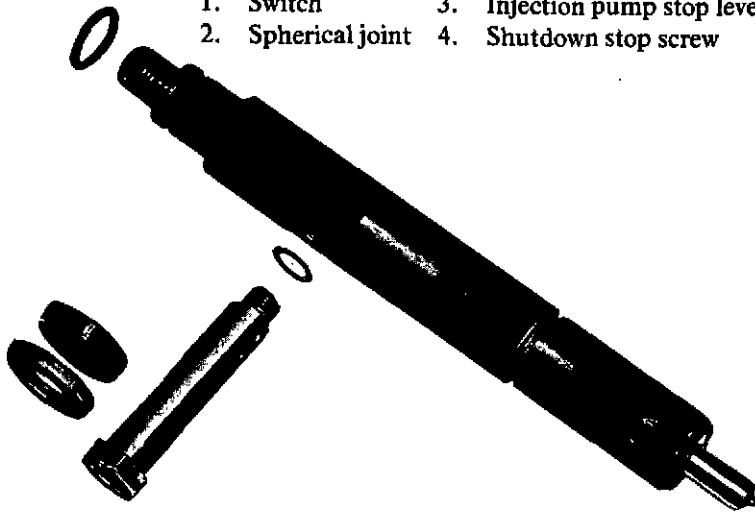

Fig. 8 Bosch fuel injector with spill connection
2. Unscrew the injector spill connection (fig. 8) from each injector to be renewed and remove the rocker cover.